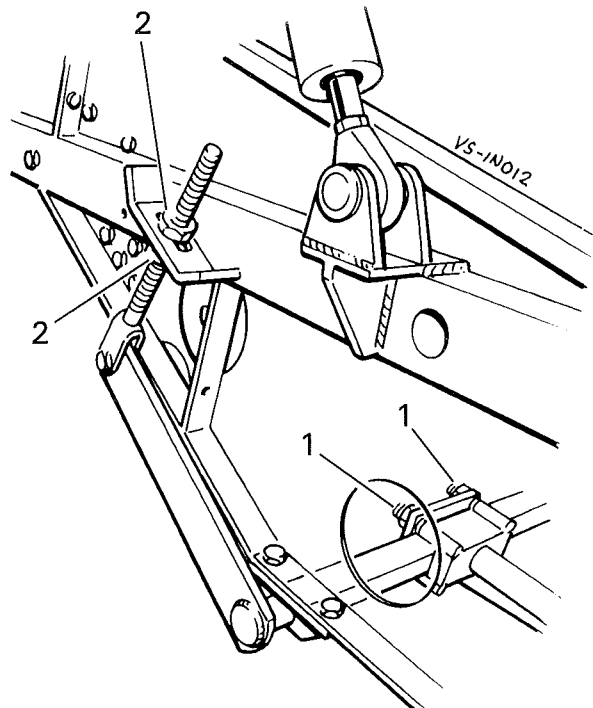

Figure 5
Loosen the clamp plate locknuts (*item 1, figure 5*) and slide the share to the required position. The shares should be set symmetrically about the centre-line of the machine.
Release the locknuts (*item 2, figure 5*) on both sides of the machine. The top nut turned down will pitch the nose of the shares down. The bottom nut turned up will pitch the nose of the shares up.